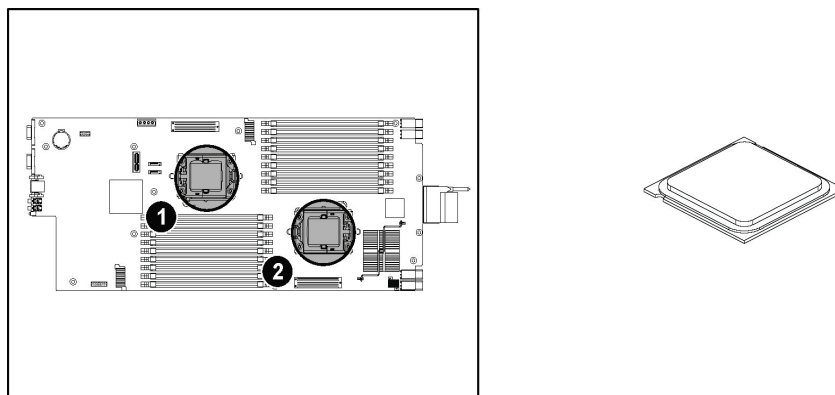

Figure 10. Location of Processors
1. If a SINGLE processor is intended, it is recommended that you install the processor on the processor 1 socket. Refer to Figure 10.